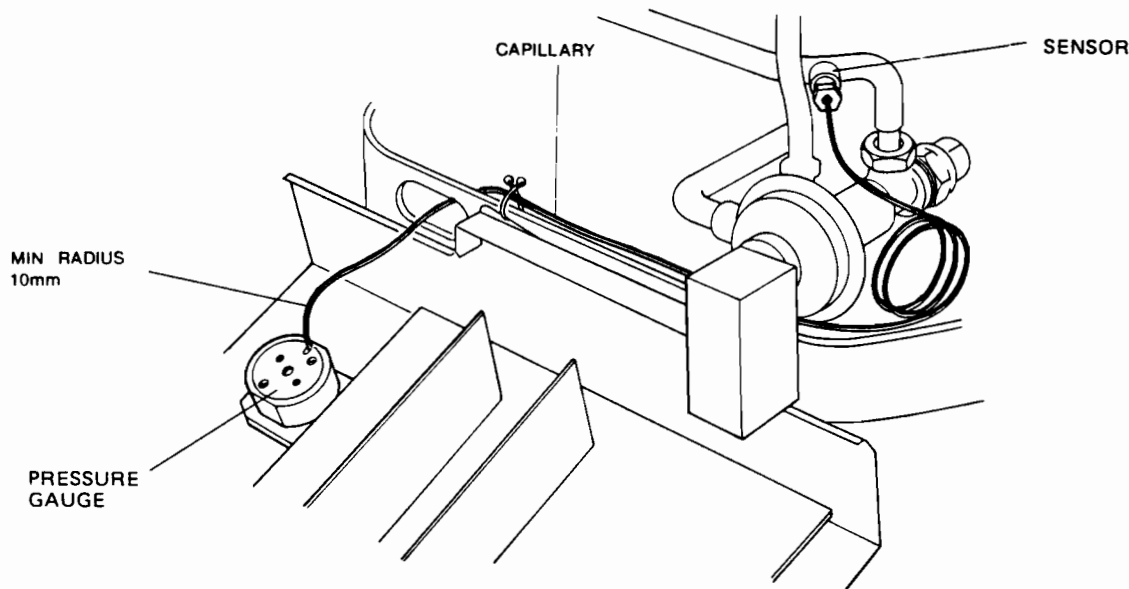

FIG. 41 PRESSURE GAUGE CAPILLARY ROUTE
32. PRESSURE GAUGE (see Fig. 41 and 33)